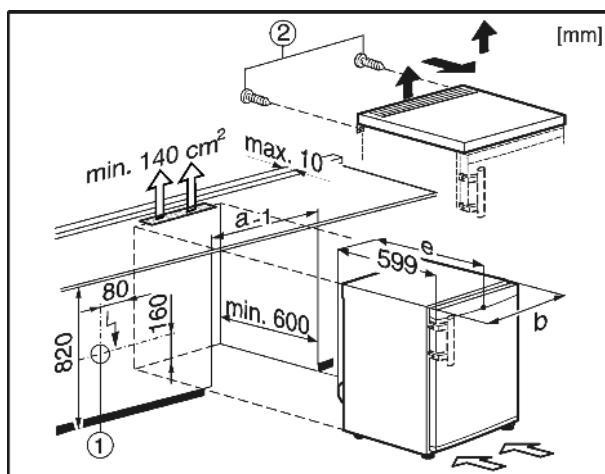

Fig. 7
With such installations, the plug Fig. 7 (1) must not be located behind the appliance and must be easily accessible.
- ▶ Remove the screws *Fig. 7 (2)* from the rear side.